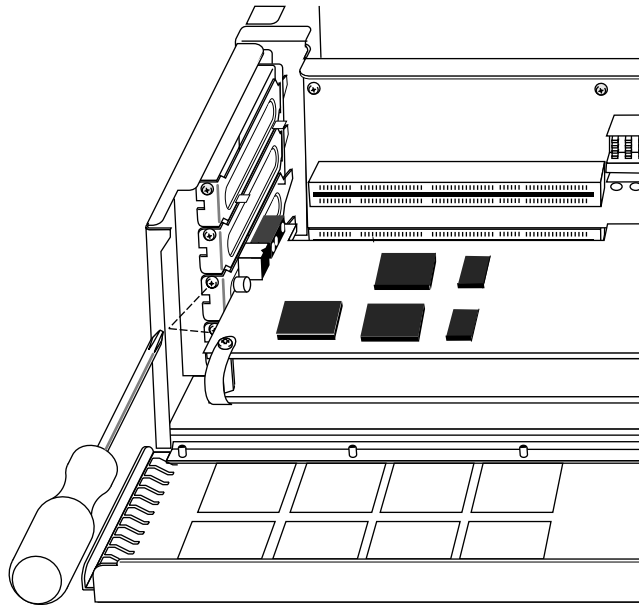

Figure 5-64 Inserting the Screws for the High IMPACT Board Set
5. Insert and tighten the screws that hold the board set to the chassis. The screw openings are located on the metal extension on the left side of each board. See Figure 5-64.